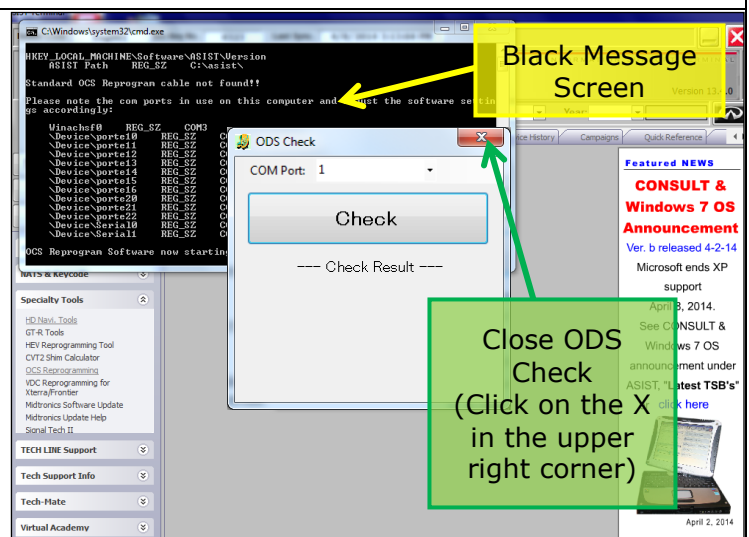

Figure 2
- If you get a black message screen as shown in Figure 2, this indicates that the reprogramming cable is not connected, or the cable driver did not install correctly.